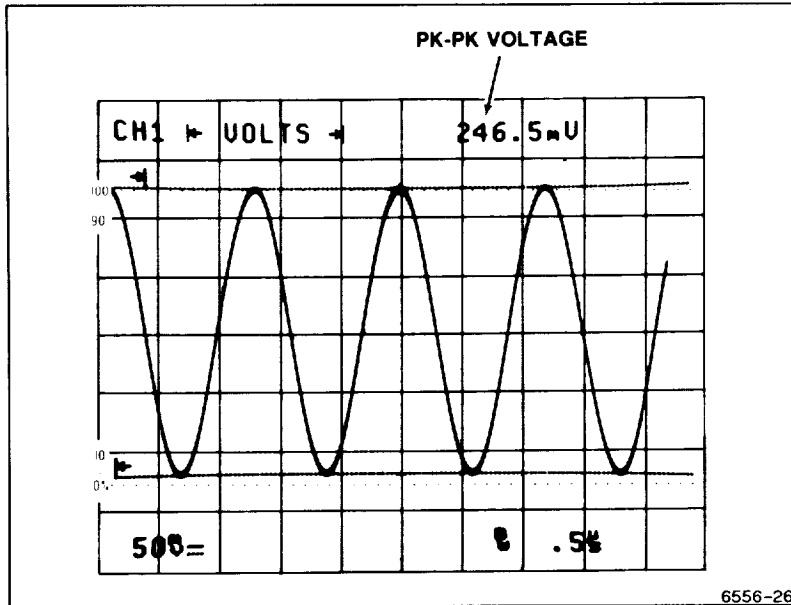

Figure 5-3. Voltage difference measurement using cursors.
3. Press the CURSOR VOLTS button to display the measurement selection menu and select the ← VOLTS → cursors. The voltage cursors are initialized to the peak-to-peak levels of the lowest numbered displayed channel of either CH 1 or CH 2 (see Figure 5-3).